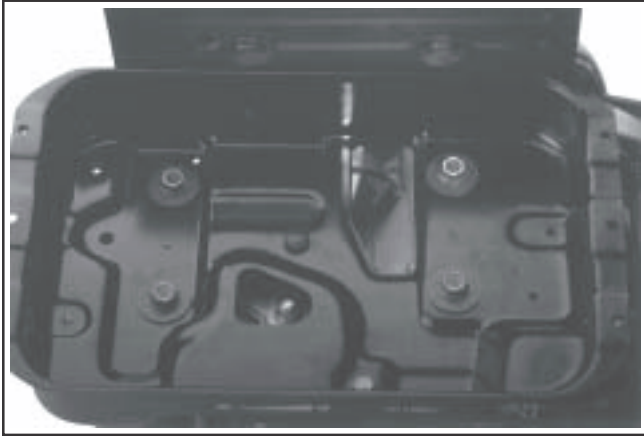

Figure 9-11. CS8.5 (spec. 95xxxx) Fuel Tank Support.
4. On CS8.5 (spec. 95xxxx) remove the five screws and washers securing the fuel tank support to the crankcase, and the single screw into the throttle control bracket. Lift off the fuel tank support. See Figure 9-11.